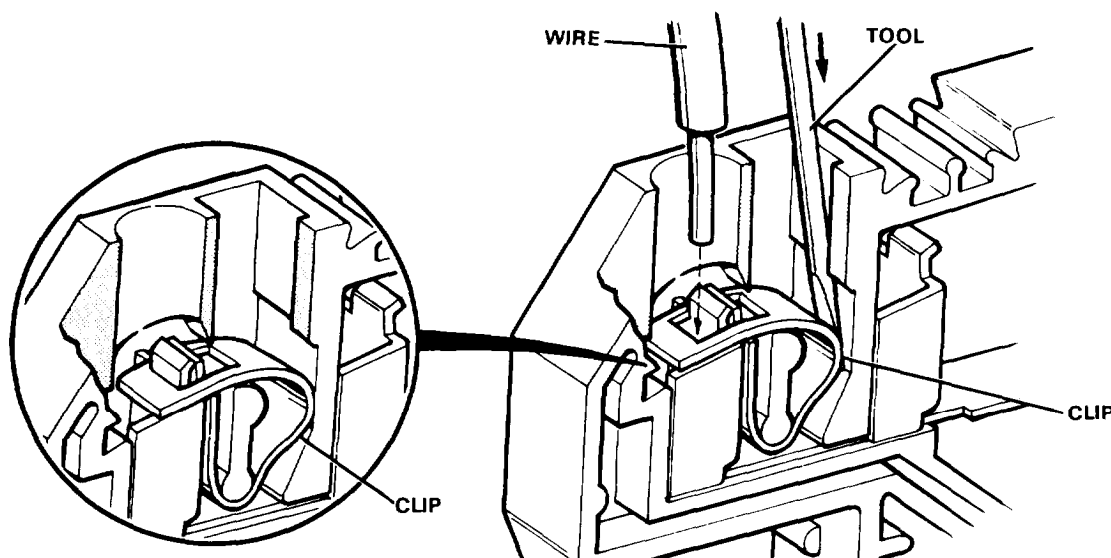

Figure 4-9. Terminal Strips (sheet 1 of 3) Wires
- b. Cable clamp tie (3) is removed by clipping with diagonal cutter or knife. When replacing cable tie (3) it is not necessary to replace mount (1).
- (1) Refer to Figure 4-9, sheet 1 and insert tool into slot and push tool to depress clip. Remove wire by pulling upward.
- (2) Install wire by placing tool into slot, push tool to depress clip and hold that position, Insert wire and release tool.